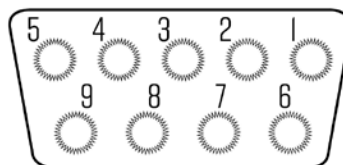

FIGURE 4: DB9 SERIAL CONNECTOR PINOUT
- Figure 4 shows the pin assignment on the DB9 9 pin connector